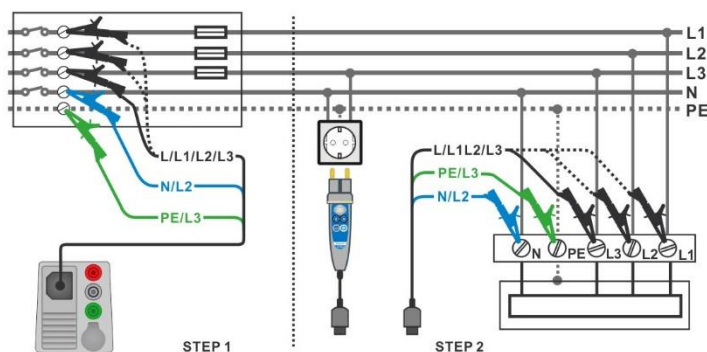

Figure 7.75: Voltage drop measurement – connection of Plug commander and 3-wire test lead
- › Connect 3-wire test lead to the origin of electrical installation, see **Figure 7.75**.
- › Connect 3-wire test lead or Plug commander to the tested points, see **Figure 7.75**.